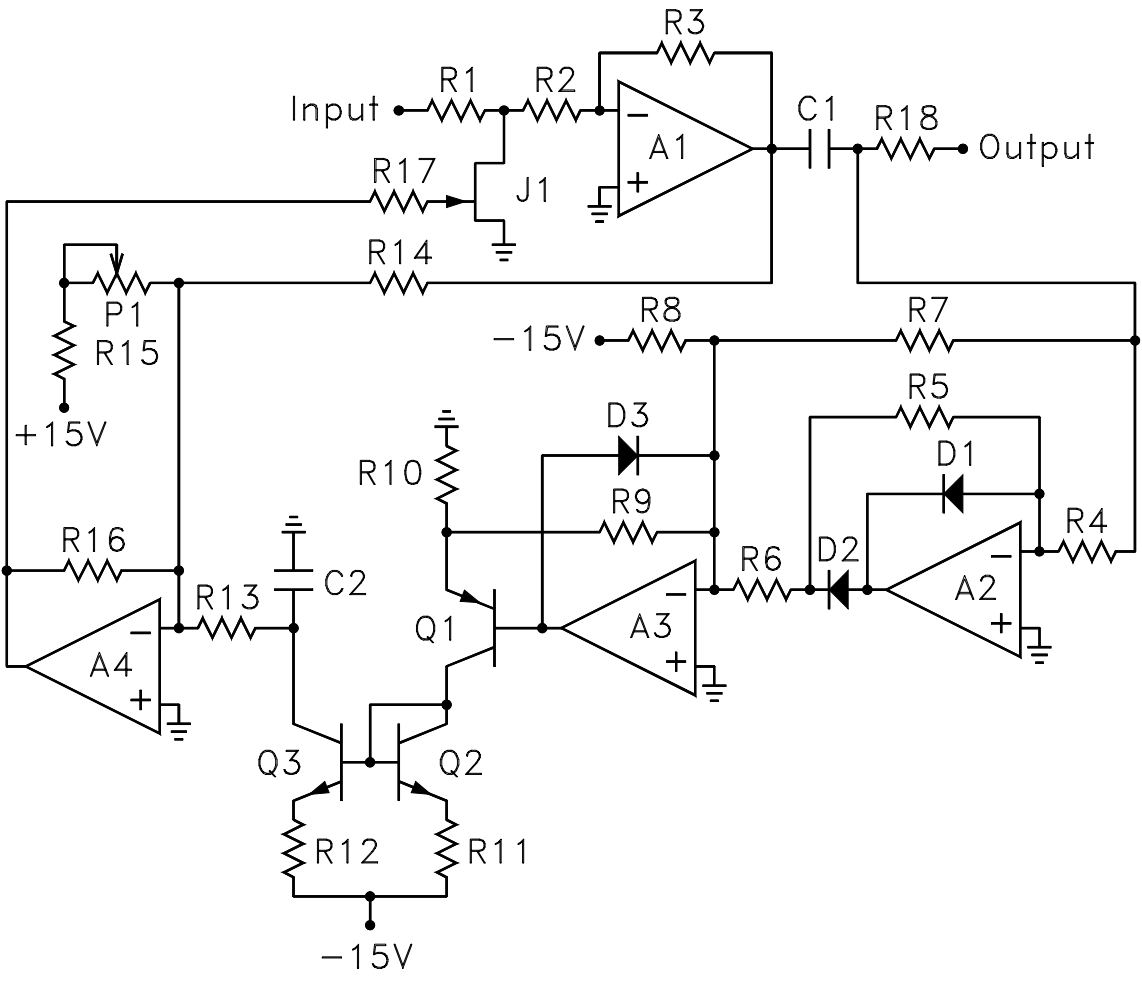

Figure 1: Basic circuit diagram of the compressor/limiter.
This circuit uses a p-channel JFET. Your design project is to realize this circuit using an n-channel JFET. The circuit is shown in Figure 1. This circuit differs from that in the reference paper in that the JFET is an n-channel device, the diodes are reversed, and the polarity of two power supply voltages is reversed.
The first part of this lab is to realize the detector part of the circuit in Figure 1 consisting of op amps  $A_2$  and  $A_3$ . The circuit is not to be connected to the VCA until it is operational. The first step is to assemble the precision rectifier circuit consisting of  $A_2$ ,  $A_3$ ,  $D_1$ ,  $D_2$ , and resistors  $R_4$ ,  $R_5$ ,  $R_6$ ,  $R_7$ , and  $R_9$ . Omit  $D_3$ ,  $R_8$ , and the circuit to the left of  $A_3$ . The left node of resistor  $R_9$  should connect to the output of  $A_3$ . The specifications are:
- Connect the output of  $A_3$  to the base of  $Q_1$  and reconnect  $D_3$  and  $R_9$  as shown Figure 1.